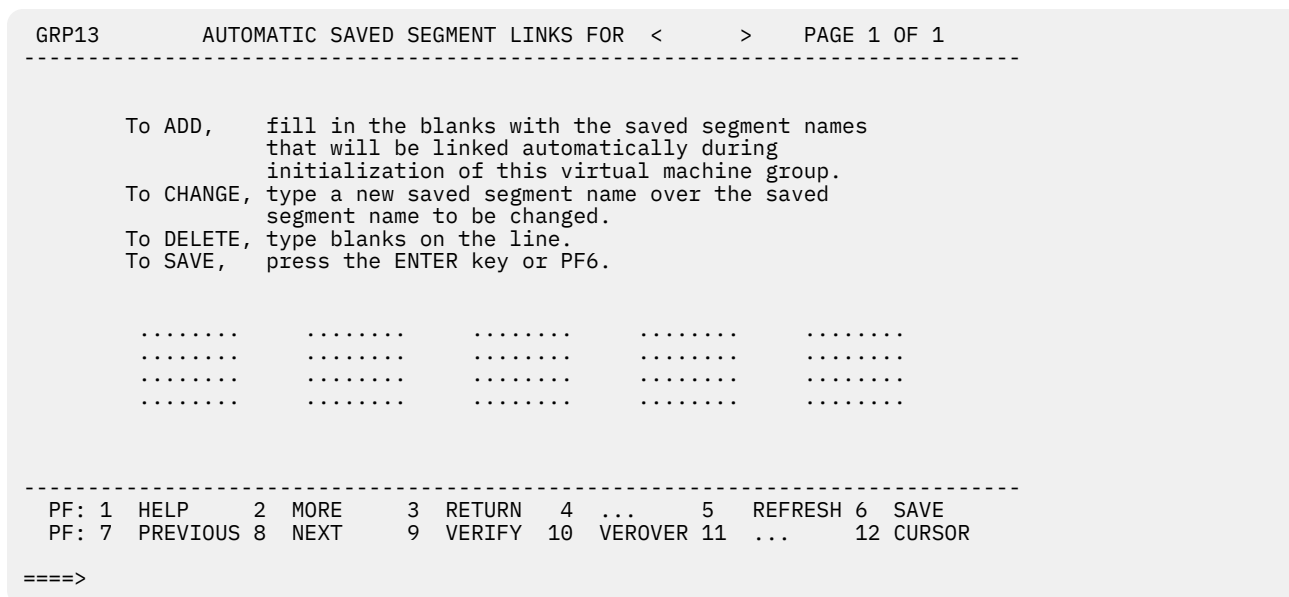

Figure 20. GROUP Automatic Saved Segment Links Panel
- Automatic Saved Segment Links (Figure 20 on page 105).